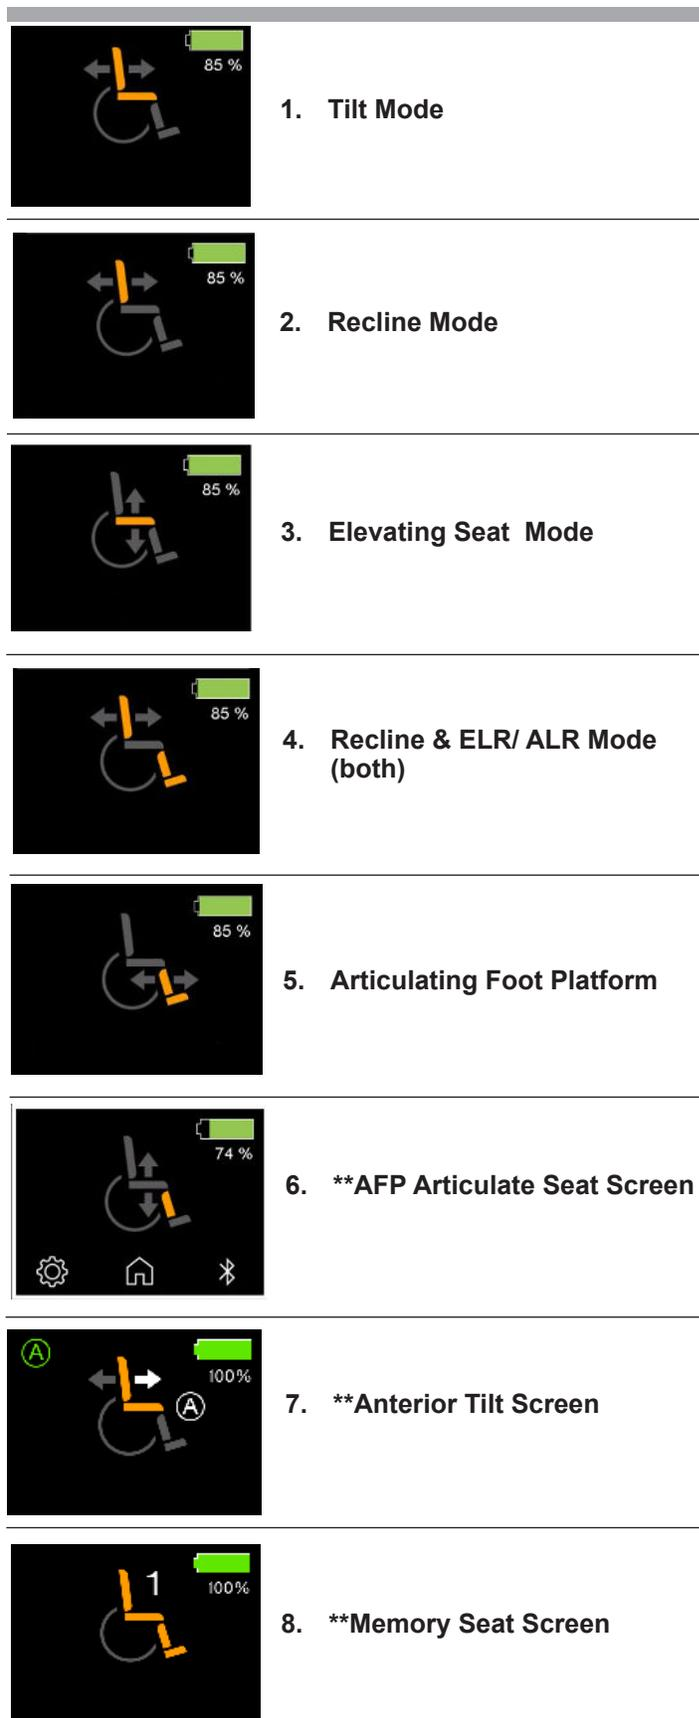

Figure 1. Actuator Selection
3. Push the joystick to the left or right to cycle through the available actuators until the desired actuators are illuminated on the actuator indicator. **See figure 1.**
2. Push the Mode Button several times until the seat screen is displayed on the LCD or push the middle soft key button once to go directly to seat screen. **See figure 1.**
1. When the tilt seat mode is selected, give a forward command to the joystick to adjust position in one direction or give a reverse command to the joystick to adjust position in the opposite direction. A forward command, from zero tilt, will result in power anterior tilt mode, on the seat screen. **See figure 1.**
The memory seat function is displayed on the Q-Logic 3e seat screen with number 1 through 4. **See figure 1.**
3. Push the joystick to the left or right to cycle through to the memory seat mode. This is illuminated on the actuator indicator. **See figure 1.**